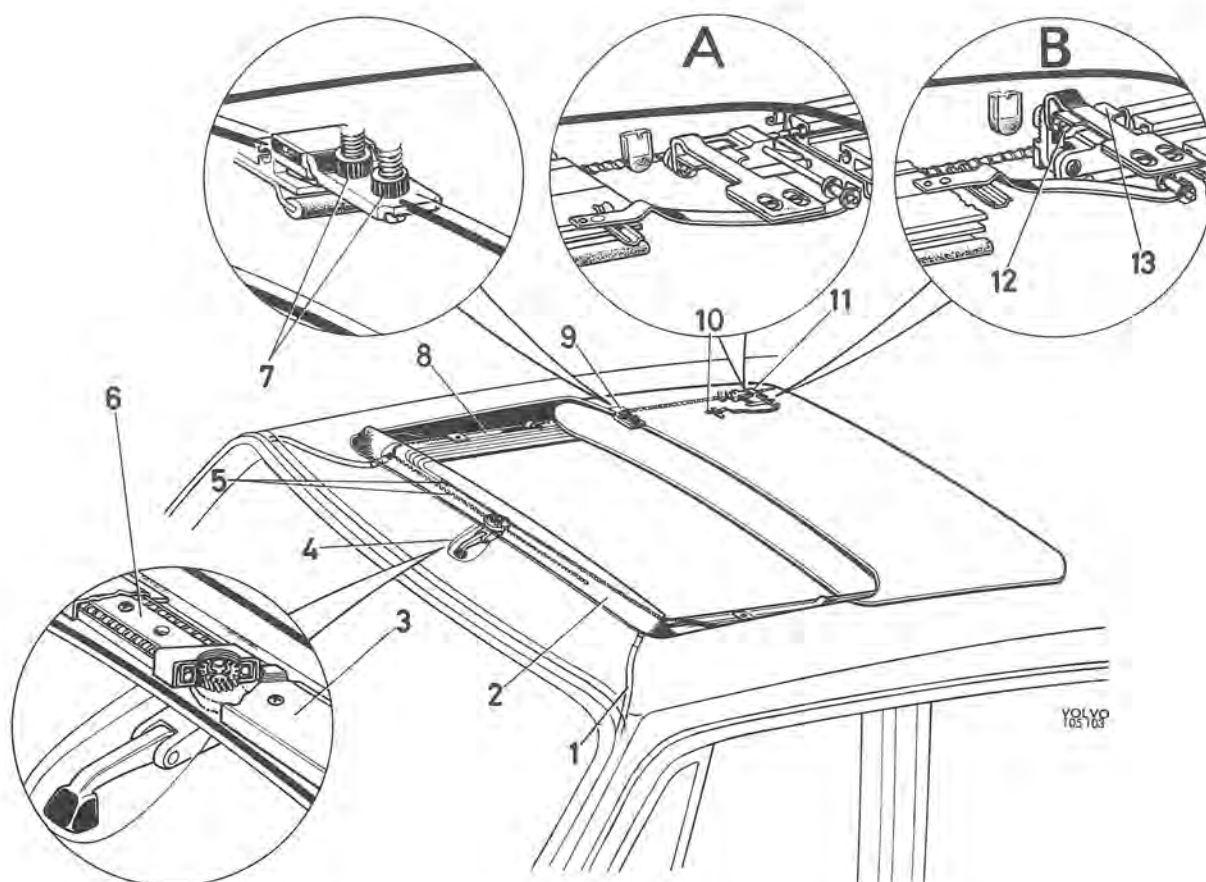

Fig. 8-21. Sun roof
2. Crank the sun-roof forwards and slacken the screws at its four attachments (9 and 11, Fig. 8-21). Bend the blade springs (10) to the one side and remove the reinforcing plates (13) at the rear attachments. Lift off the sun-roof.
3. Remove the wind deflector (2).
4. Remove the intermediate pieces (8), covering strip (3) and holders above the drive. Release the front guide rails (6) and pull out the cables (5).